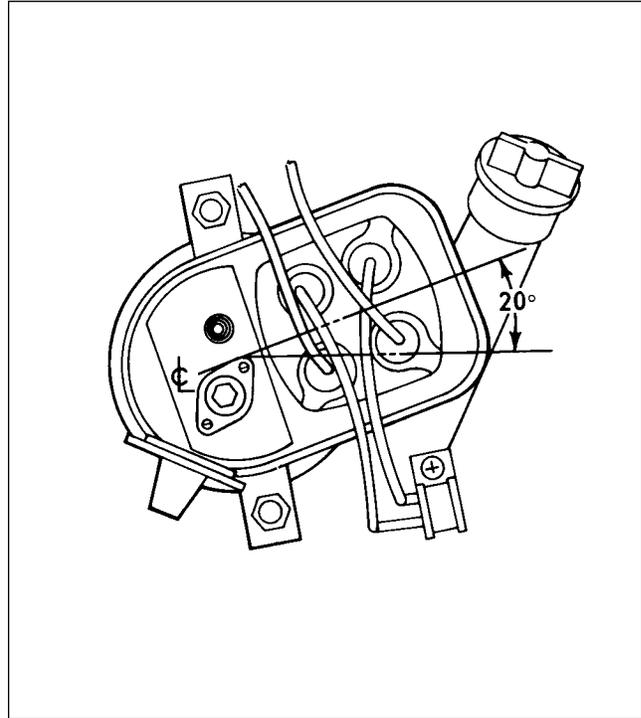

Figure 74-29. Magneto Adjustment Limits
*The magnetos are held in place by clamps which allows them to be timed in several positions. Since all positions will not give the required clearance between magneto and engine mount, the magnetos must be installed from the horizontal position to 20° above the horizontal as shown in Figure 74-29. Improper installation of magnetos could cause damage or failure.*